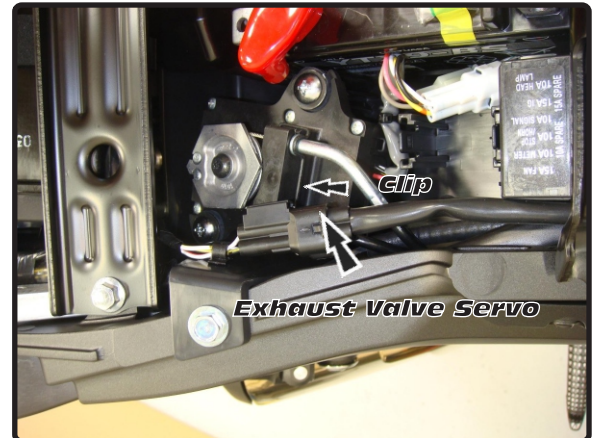

Fig. 1
- Remove rider seat to expose exhaust valve servo (Fig. 1).